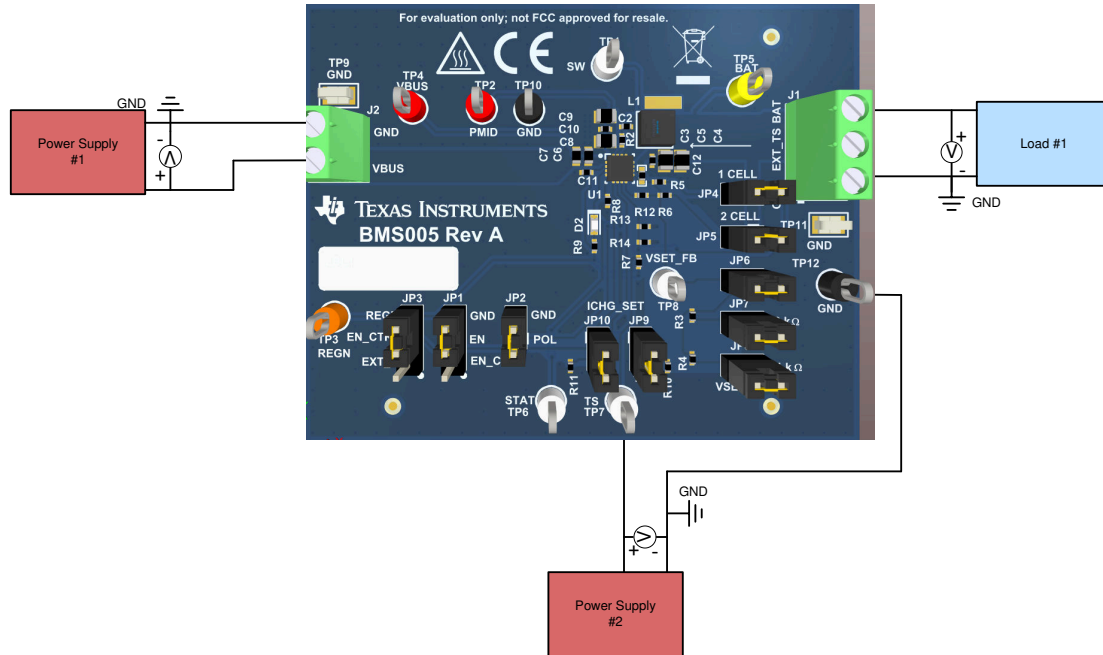

Figure 2-1. Original Test Setup for BMS005
4. Connect the output of PS1 to J2 (VBUS and PGND) as shown in Figure 2-1.
6. Turn on Load #1 as shown in Figure 2-1, set to constant voltage mode, and output to 2.5V. Disable Load.
7. Connect one voltage meter across TP5 (BAT) and TP11 (PGND) or across J1-3 and J1-1 as shown in Figure 2-1.
9. Connect the output of PS2 to TP7 (TS) and TP12 (PGND) as shown in Figure 2-1.